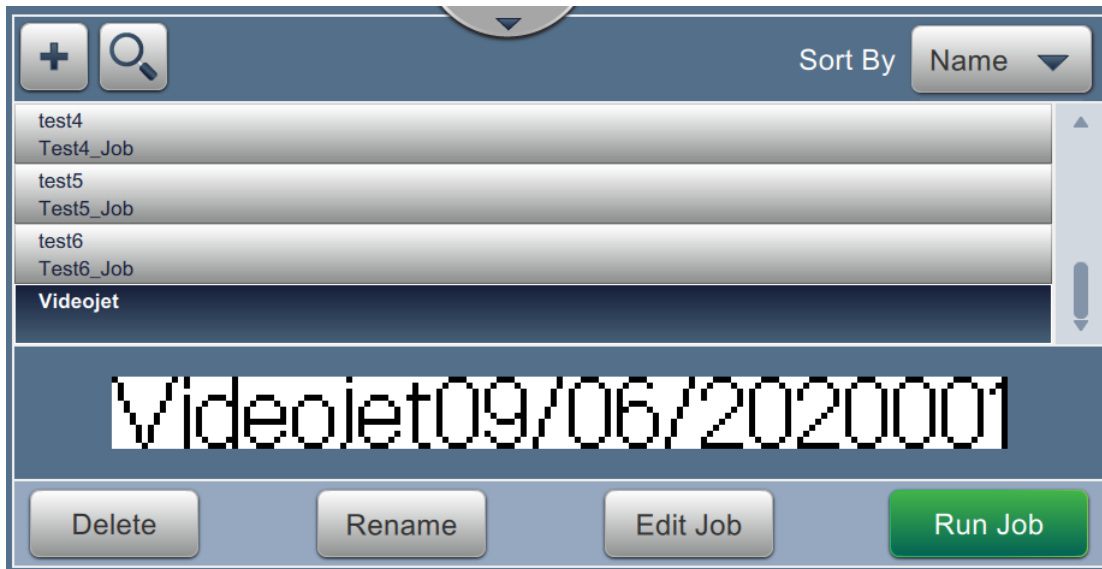

Figure 5-26: Job List
32. The job “Videojet” is added to the job list as shown in Figure 5-26.